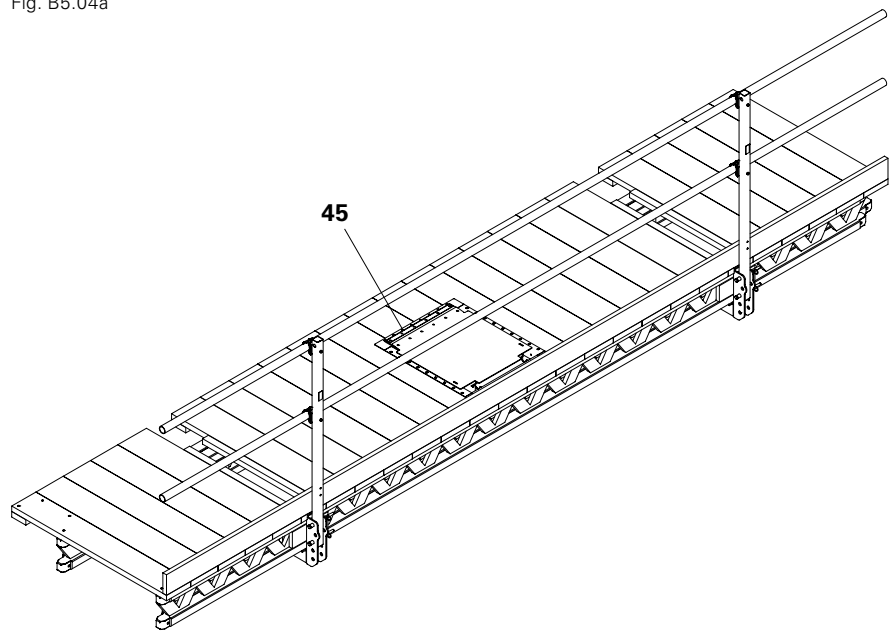

Fig. B5.04b
2. Secure frame of the hatch and decking using approx. 16x TSS Torx 6 x 40 (45) (2 per plank). (Fig. B5.04b)